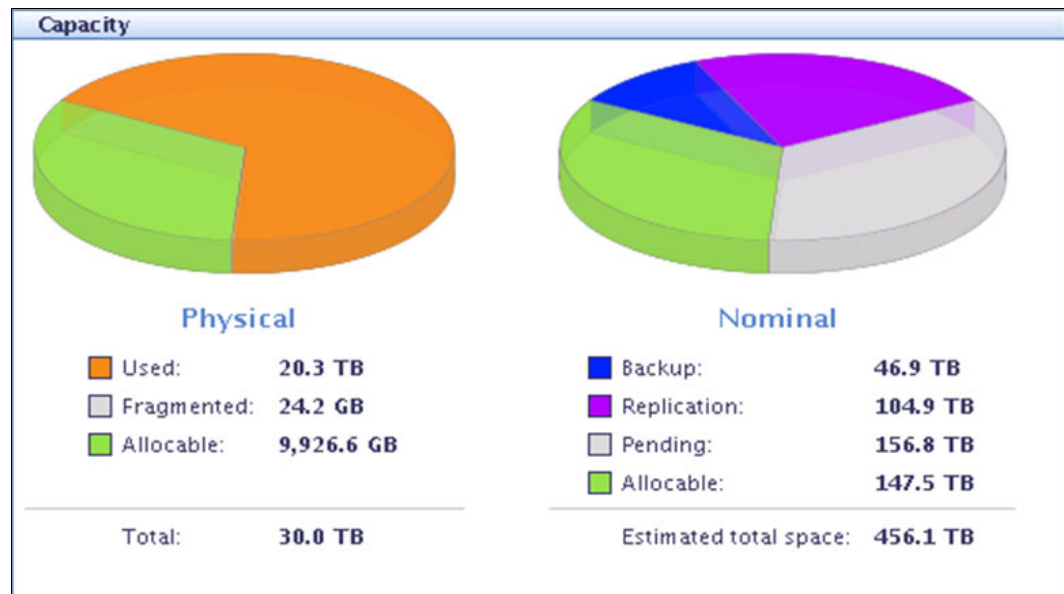

Figure 21-8 Repository usage by category
- A GUI feature that provides an at-a-glance view of the proportion of the repository data, replication data, local backup data, and free space, as shown in Figure 21-8.